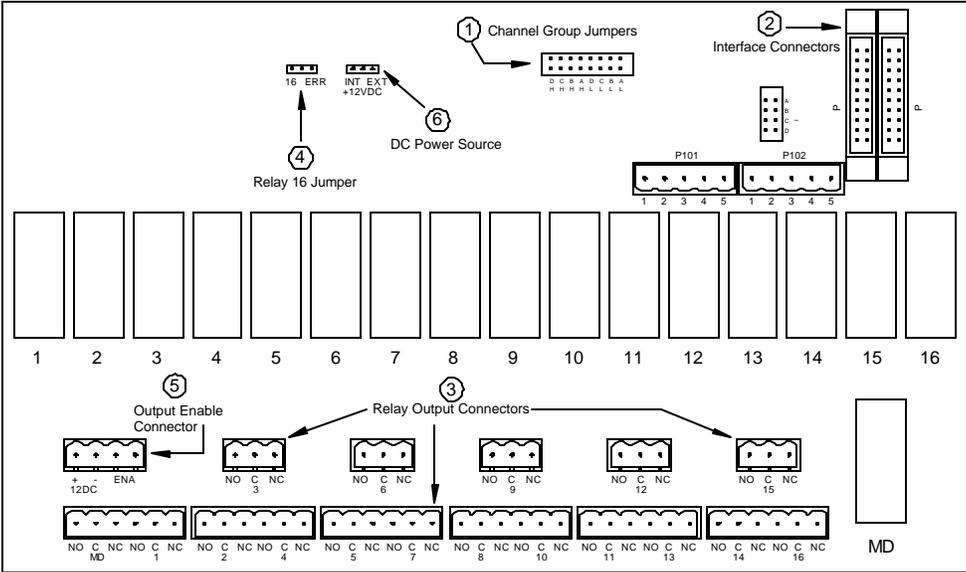

Figure 3.4.2 PLS-601 Electromechanical Relay Board
The electromechanical relay board contains a maximum of seventeen electromechanical relays, each rated at 240 VAC at 10 Amps, or 30VDC at 10Amps. Each relay is configured as SPST, providing one normally open contact (N.O.) and one normally closed contact (N.C.). Figure 3.4.2 shows the layout of the electromechanical relay board.
The PLS-601 Control Unit provides sixty-four channel outputs that are divided into four groups of sixteen channels each. The channels are designated as A01-A16, B01 - B16, C01 - C16, and D01-D16. Up to four electromechanical relay boards, each with sixteen relays, can be attached to the PLS-601 Control Unit. However, only one electromechanical relay board can be directly driven from the PLS-601 Control Unit's power supply. If additional boards are required, an external power supply must be used (see DC Power Source for details). Each board must be assigned to one of four output groups designated as A, B, C, or D. This is done by installing the two channel group jumpers in the proper positions on the relay board (see Channel Group Jumpers in Figure 3.4.2). The relay board must be configured to match the PLS-601 output group that will drive it. Output Group A will drive relay output board A, Group B will drive relay output board B and so forth.
Each electromechanical relay output board contains two 20 pin male interface connectors labeled P101A and P101B (see Interface Connectors in Figure 3.4.2). The PLS-601 Control Unit will connect to P101A through the use of a twenty pin ribbon cable. To add additional electromechanical relay output boards, simply connect P101B of the first (or previous) relay output board to P101A of the next relay output board. Up to four electromechanical relay output boards can be connected to the PLS-601 Control Unit by this interface method.
(3) Relay Output Connectors - Electromechanical Relay Board
Each electromechanical relay board contains five 3 pin plug connectors and six 6 pin connectors that provides two output pins and a common for each of the sixteen channels (see Relay Output Connectors in Figure 3.4.2). These outputs are normally closed (NC) until activated by the PLS-601 Control Unit. The electromechanical relay output connectors are labeled (NO C NC) for each of the channels. In addition, 3 pins are available for the MOTION DETECT function. The MD function shares the first three pins of the channel 1 connector.
Electromechanical Relay 16 may be used as one of the standard channel output relays, or it may be used as an indication that an error has occurred in the PLS-601 Control Unit. To enable solid state relay 16 as a standard output, connect pins 1 and 2 together of J1 (see Relay 16 Jumper in Figure 3.4.2). To enable solid state relay 16 as an error indicator, connect pins 2 and 3 together of J1. When solid state Relay 16 is used as an error indicator, it will be active in non error conditions (ON) and non-active in an error condition (OFF).
Each electromechanical relay board has a 2 pin input connector that implements an OUTPUT ENABLE function (see "Output Enable Connector in Figure 3.4.2). This connector is labeled ENA. The ENA pins must be shorted together in order for any of the seventeen electromechanical relay outputs to be enabled. If this connection is opened, all seventeen electromechanical relay outputs will be disabled.
The internal power supply of the PLS-601 Control Unit is capable of only driving one fully loaded electromechanical relay board. Additional boards must be driven from an external power supply. To use an external power supply, the jumper labeled INT EXT +12VDC must be placed between 2 and 3 (see DC Power Source in Figure 3.4.2). The external power supply voltage source must enter the board through the connector labeled (+ - 12DC). Make sure that the positive voltage of the external supply is attached to the connector pin labeled (+) and that the negative voltage (or ground) is attached to the connector pin labeled '- '.